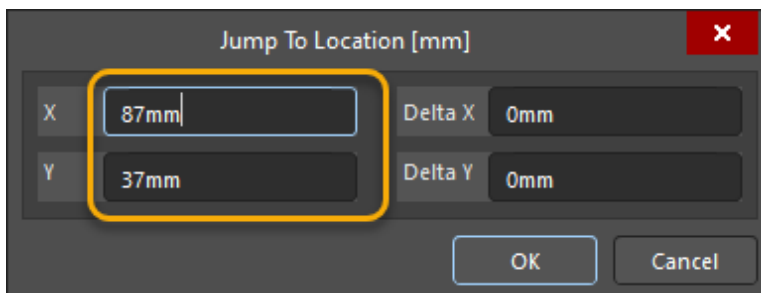

Figure 2. Jump to Location dialog
7. To jump to a specific location: Press the **J » L** keys in succession, then enter the X, Y coordinates within the *Jump to Location* dialog as shown in Figure 2 below.